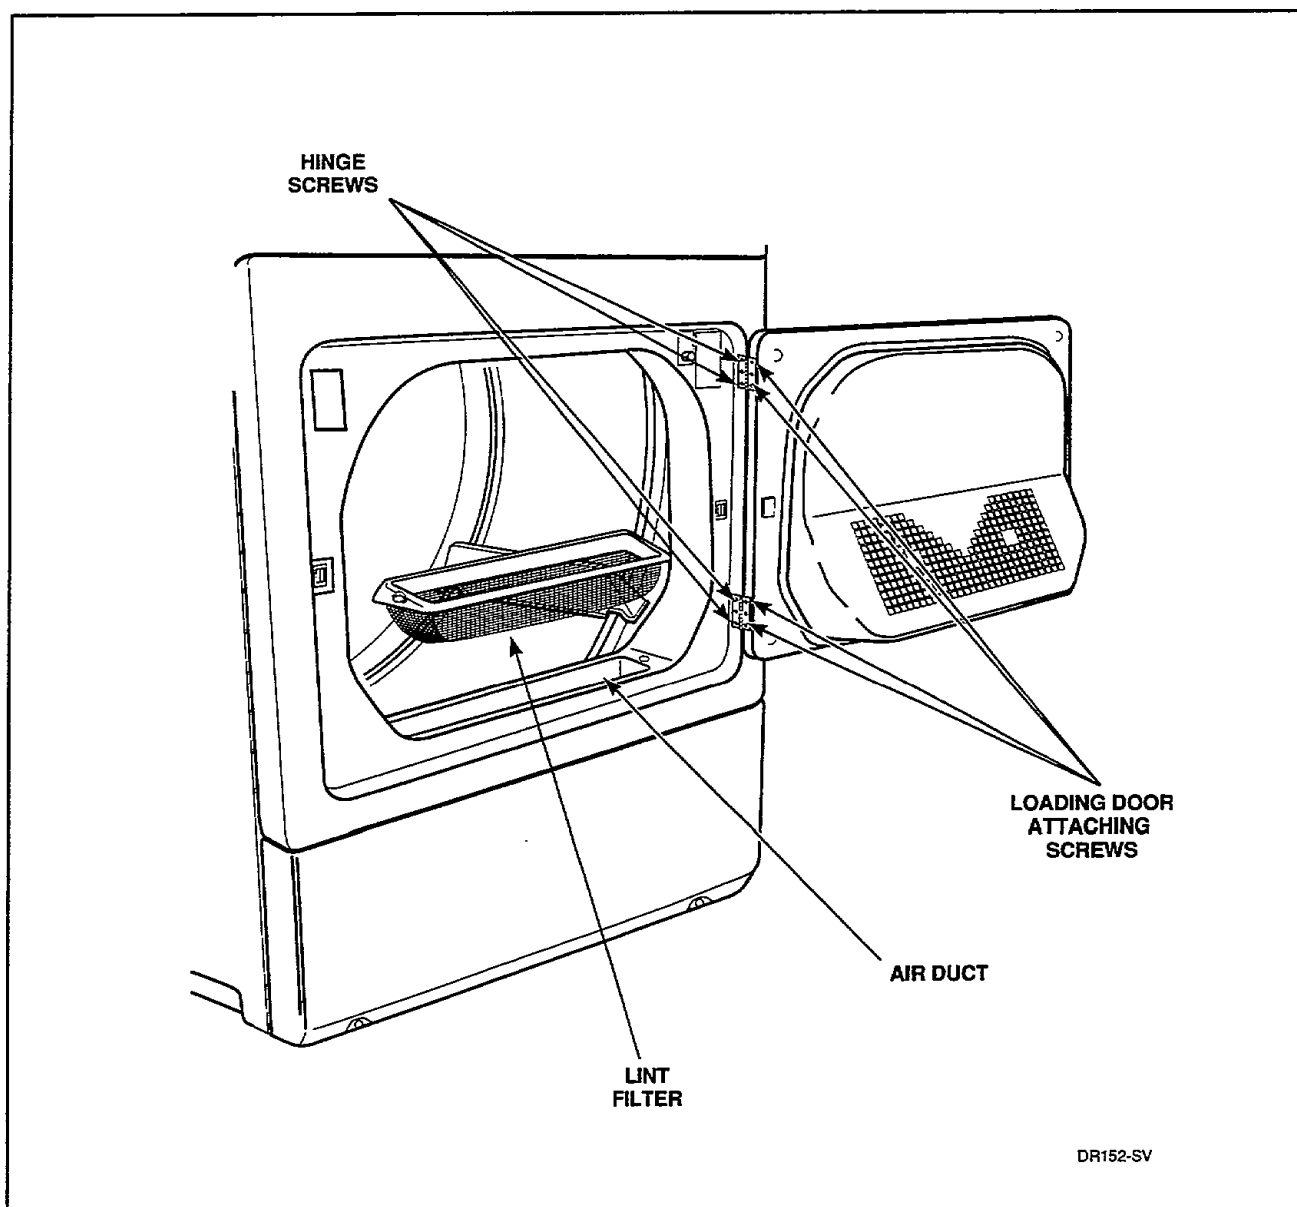

Figure 9
11. LINT FILTER (Figure 9)
- Remove four screws holding door assembly to hinges, *Figure 9*.